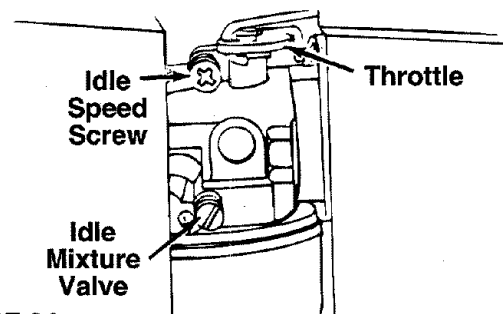

FIGURE 24.
- Close idle mixture valve (see figure 24) clockwise (↻) finger tight only. Forcing may cause damage. Then open 1-1/2 turns counterclockwise (↺).